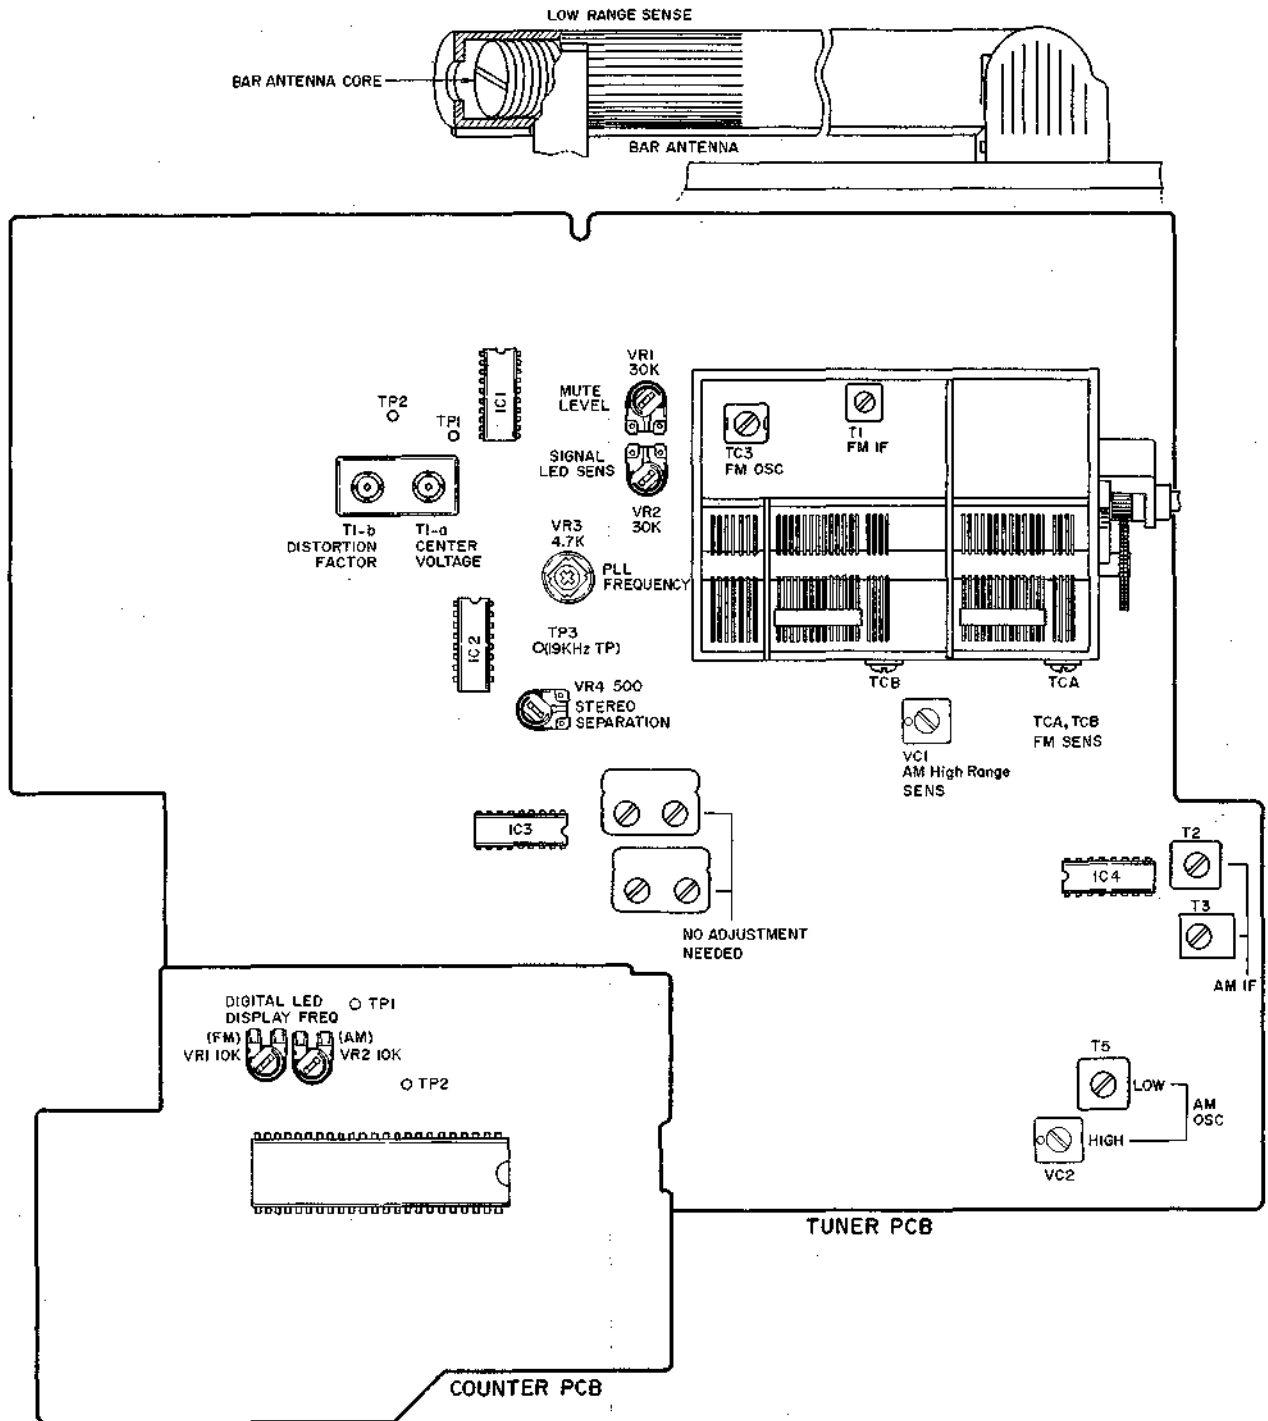

Fig. 5 Tuner P.C Board and Counter P.C Board (Model UC-K3/J)
1) FM Section Adjustments (Refer to Figs. 5 to 8)
Unless otherwise specified, use the adjustment points provided on the Tuner P.C Board (Figs. 5, 6)
2) AM (UC-K3L: MW) Section Adjustment (Refer to Figs. 5, 6, 9)